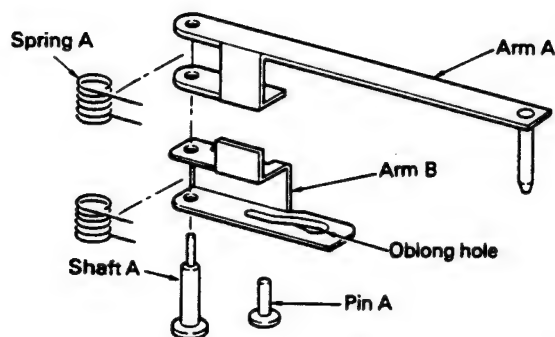

Fig. 10
1. Push the cassette tape lightly in the direction indicated by the arrow. (As shown in Fig. 10, arm "A" and arm "B" connect to spring "A". These are also connected to common axis shaft "A", which is attached to the chassis surface and acts as a swivel. Pin "A", which is caulked to the planetary gear unit carrier, goes through the chassis and fits into the oblong hole of arm "B". Because pin "A" won't move as long as the capstan motor isn't moving, arm "B" won't move either.)